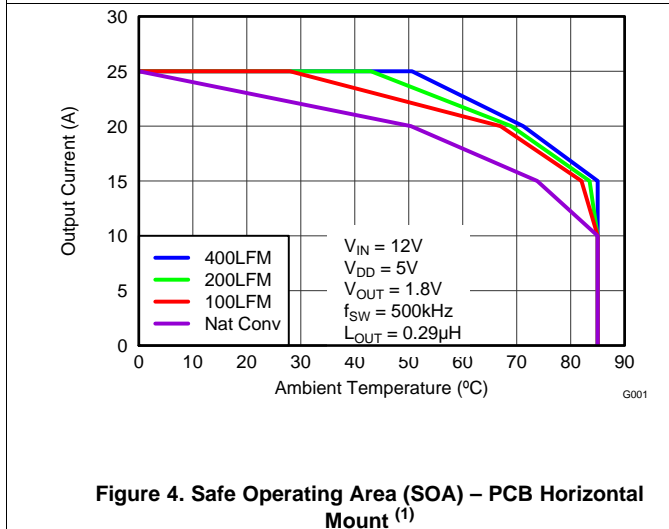
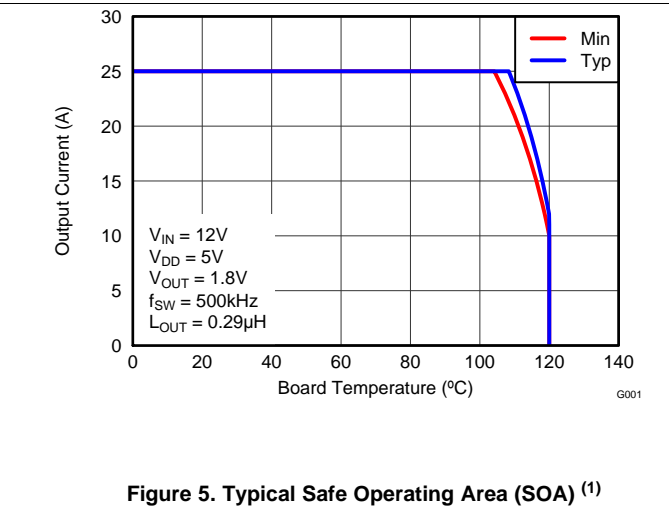

Figure 4. Safe Operating Area (SOA) – PCB Horizontal Mount (1)
Figure 5. Typical Safe Operating Area (SOA) (1)
The SOA curves in the CSD95375Q4M datasheet give engineers guidance on the temperature boundaries within an operating system by incorporating the thermal resistance and system power loss. Figure 4 and Figure 5 outline the temperature and airflow conditions required for a given load current. The area under the curve dictates the safe operating area. All the curves are based on measurements made on a PCB design with dimensions of 4" (W) \times 3.5" (L) \times 0.062" (T) and 6 copper layers of 1 oz. copper thickness.